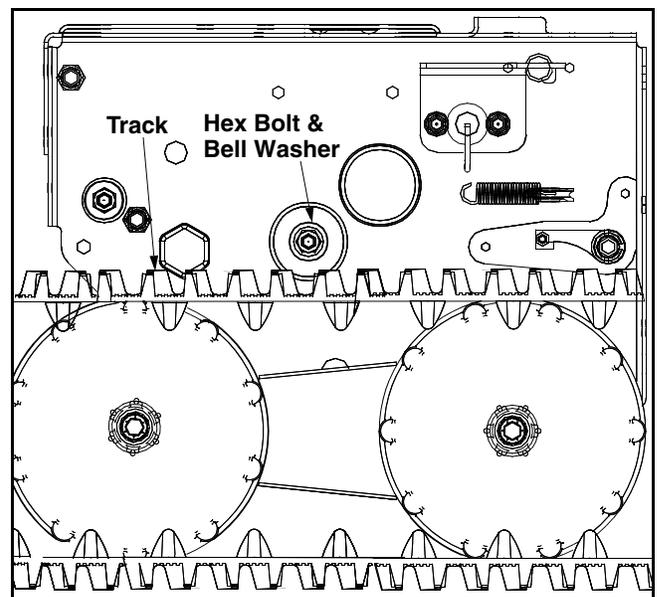

**Figure 17**
- Back out the stop bolt until the support bracket rests on the auger pulley. See Figure 17.